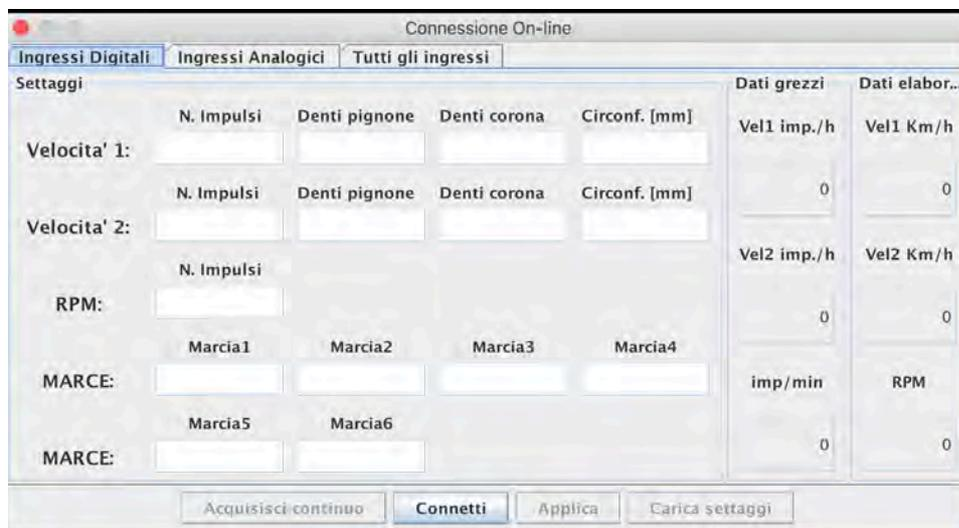

Fig. 9– Configuration of Dasy digital channels
- **DasyX Online:** This function allows us to establish an online connection with the Dasy system, to acquire the readout values in real time and to configure the hardware parameters of the speed pulses and RPM. First of all, press the Connect button to connect the device. The window features three tabs, as shown in figure 9: the first tab corresponds to the digital inputs, the second one to the analog inputs and the third one provides a summary of all inputs.